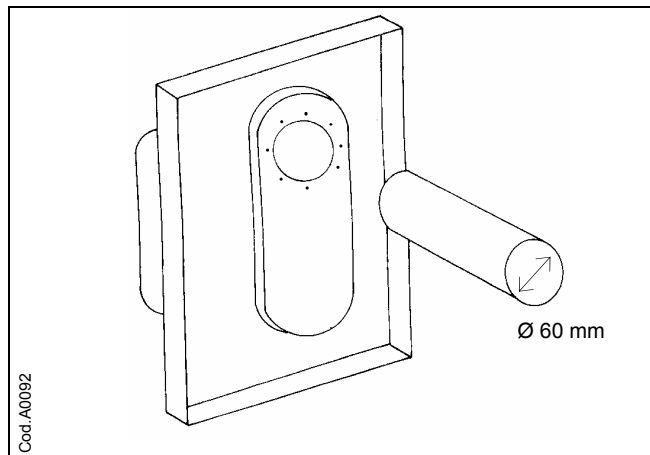
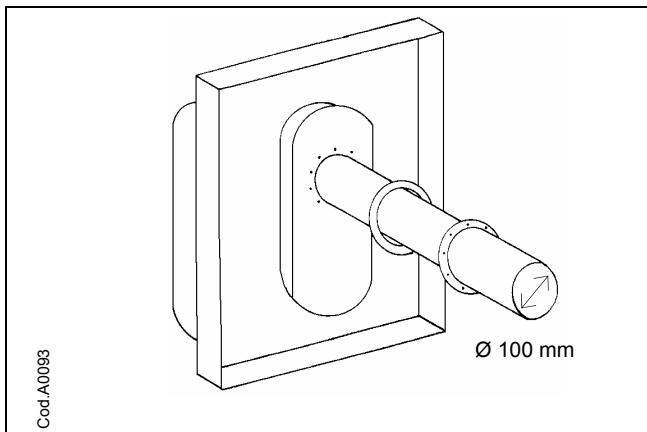

Figura 6
Figura 7
7. Insert the smallest tube (diameter  $\varnothing$  60 mm) in the combustion chamber (see Figura 6). Mount the largest tube ( $\varnothing$  100 mm) and the gasket on the unit frame with the screws provided. (see Figura 7).